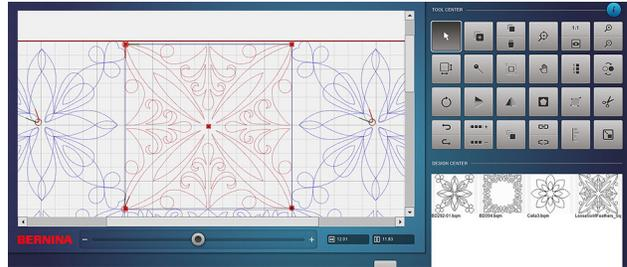

Fig. 84
6. Select any one of the markers as your starting point. Then touch each consecutive marker. A black line forms to connect the markers (Fig. 84). You cannot undo one marker at a time, so zoom in and select each marker in its proper order. It is okay to skip a marker if you choose, but markers will connect in the order they are selected. **Please note that the connected Markers line is a stitch line and it will stitch unless it is dequeued or deleted after block placement.** When the marker connection is complete, there will be a red crosshair delineating the center of the marked area. This crosshair can be used to help place the design.